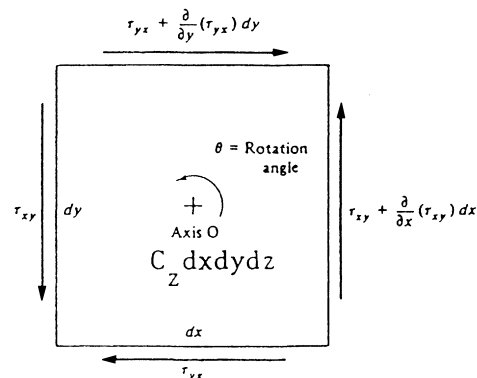

Fig. 4.5
**4.38** Reconsider the angular-momentum balance of Fig. 4.5 by adding a concentrated *body couple*  $C_z$  about the  $z$  axis [6]. Determine a relation between the body couple and shear stress for equilibrium. What are the proper dimensions for  $C_z$ ? (Body couples are important in continuous media with microstructure, such as granular materials.)